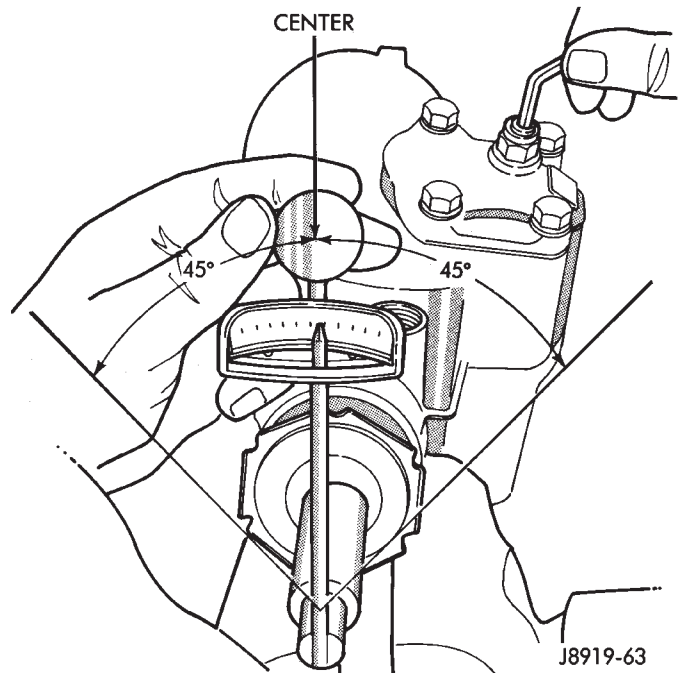

Fig. 32 Checking Over-Center Rotation Torque
(5) Place the torque wrench in the vertical position on the stub shaft. Rotate the wrench 45 degrees each side of the center and record the highest rotational torque on center (Fig. 32).